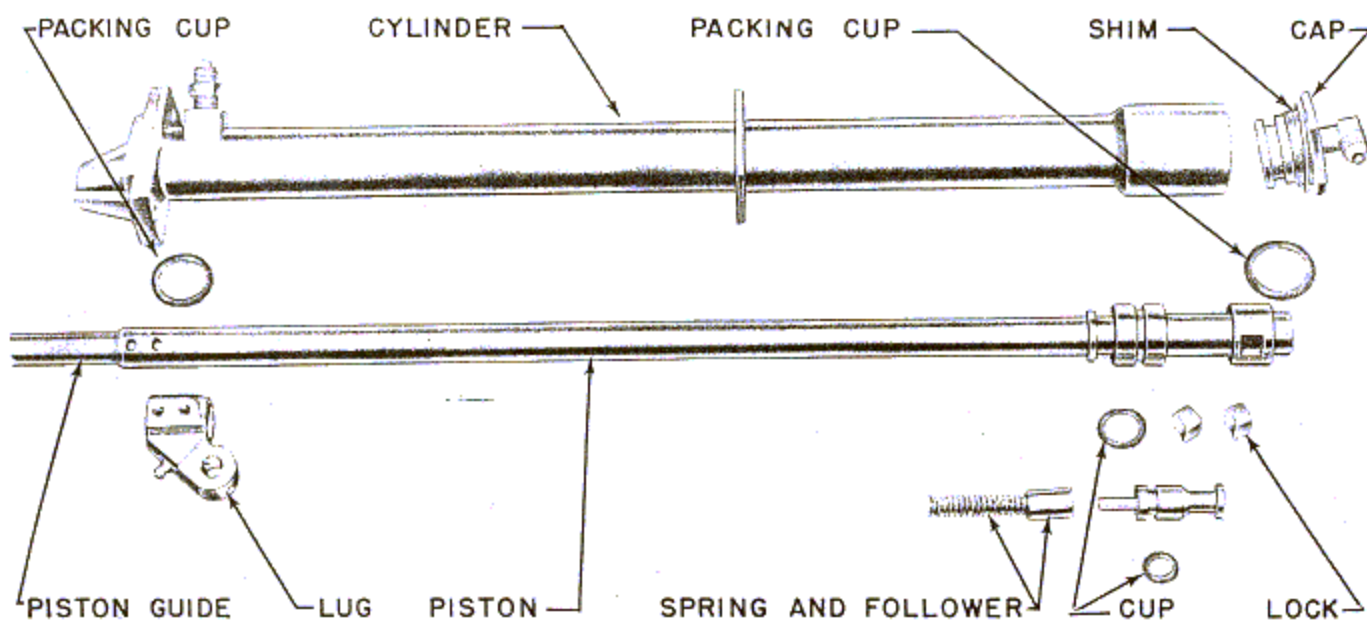

Figure 247—Tail Wheel Retracting Strut Disassembled
14. Remove the cup from the forward end of the cylinder and remove the cylinder. The cylinder and piston are now completely disassembled as illustrated in figure 247.